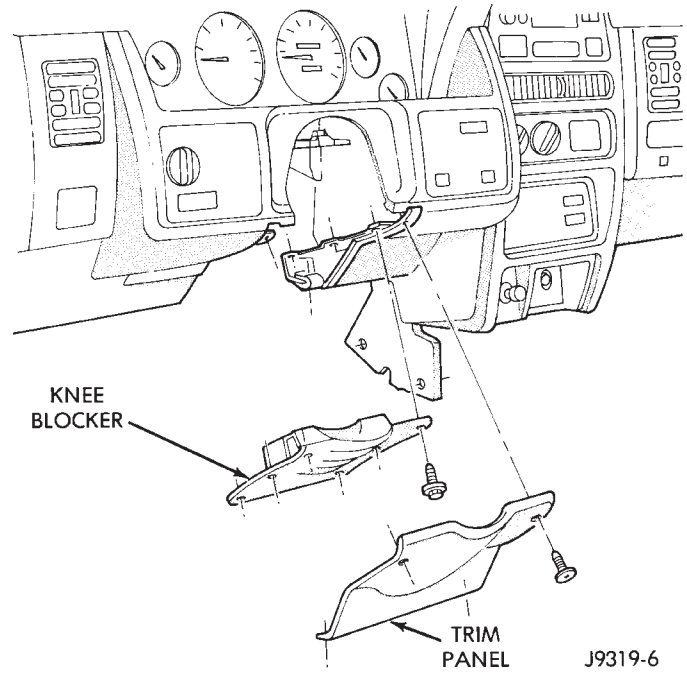
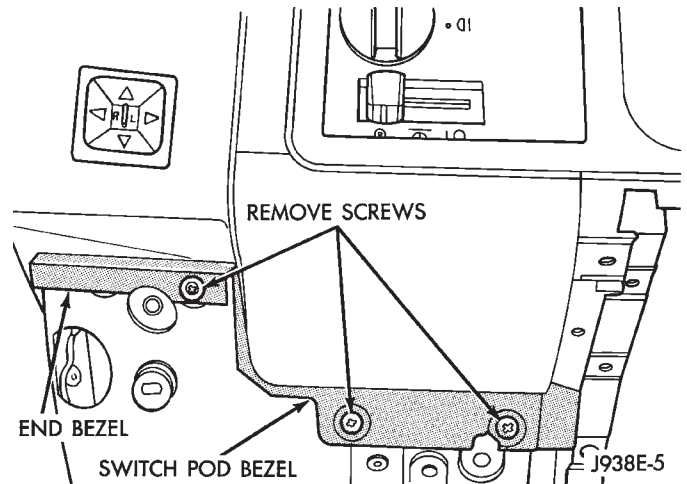

Fig. 12 Steering Column Cover and Knee Blocker
Fig. 13 Remove Screws Holding Bottom Of Bezels
- (13) Remove 4 screws holding the steering column cover (Fig. 12).
- (14) Remove 1 screw from bottom of lower trim panel and pull panel off. There is also a clip holding the panel to the instrument panel.
- (15) Remove 6 screws holding knee blocker.
- (16) Remove steering column retaining nuts.
- (17) Remove 3 screws holding bottom of bezels (Fig. 13).